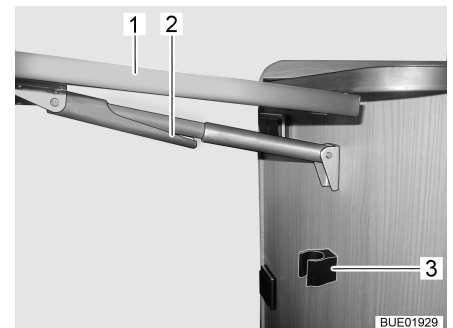

Fig. 31 Folding away the folding worktop
- Hold the folding worktop (Fig. 31,1) at the edges and lift gently. With your other hand, swing down the fixture (Fig. 31,2) on the telescopic holder.
- Fold down the worktop until the telescopic holder clicks into position in the holder (Fig. 31,3).